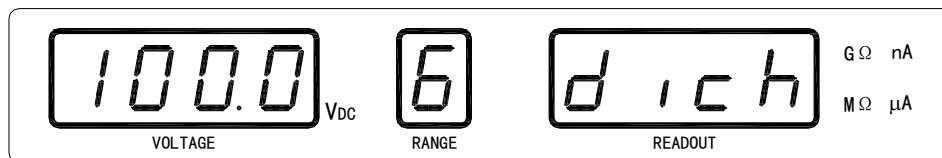

Figure 2-3 The Default Discharge Status
- 5) Finally TH2683 enters the default discharge status as shown in Figure 2-3.